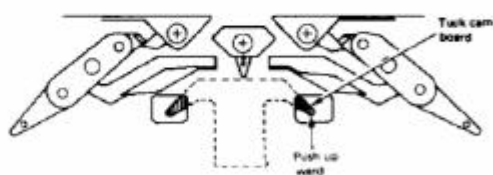

Fig. 2
- (2) Install spring-loaded fairisle knitting cam collar (d) to fairisle knitting cam (f) and hook the tip (A) of spring at fairisle knitting cam shaft. (See Fig. 2.)
- (1) Insert setting screw (b) into tuck cam guide (c) and set (a), (d) and (e) in this indicated order. (See Fig. 2.)
- (2) Set valve cam (d) to guide cam collar, hook valve cam spring at portion A, and set the valve cam washer (c). (See Fig. 2.)